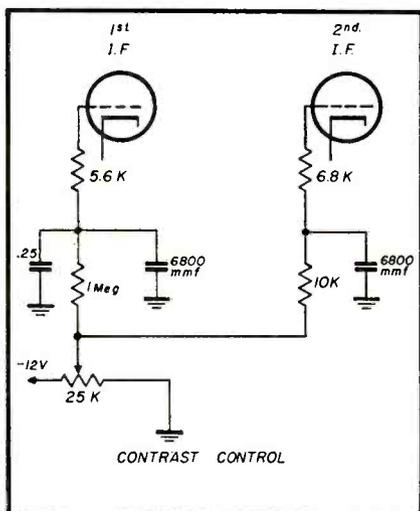

Fig. 1—Early sets used no AGC; returned grids to contrast control.
**A**UTOMATIC gain control (*agc*) is a means whereby a bias voltage which is directly related to the strength of the received signal is applied to either the *if* amplifiers, the *rf* amplifiers or both. In television, *agc* is employed for two reasons. First, to maintain the contrast level constant in the presence of stations with different radiated output powers, and second to keep the signal input to the sync system constant. Early TV sets without *agc* returned the grids of the controlled stages to a potentiometer (contrast control) in the negative return system (Fig. 1).